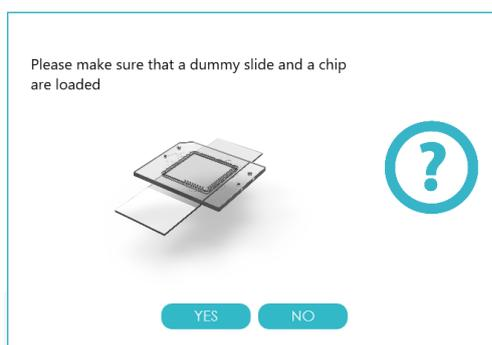

Figure 45) Pop-up reminding to load a dummy slide and chip
6. Load a dummy slide and chip before starting the protocol (Figure 45). This will allow the system to also wash the stainer and connected tubing.